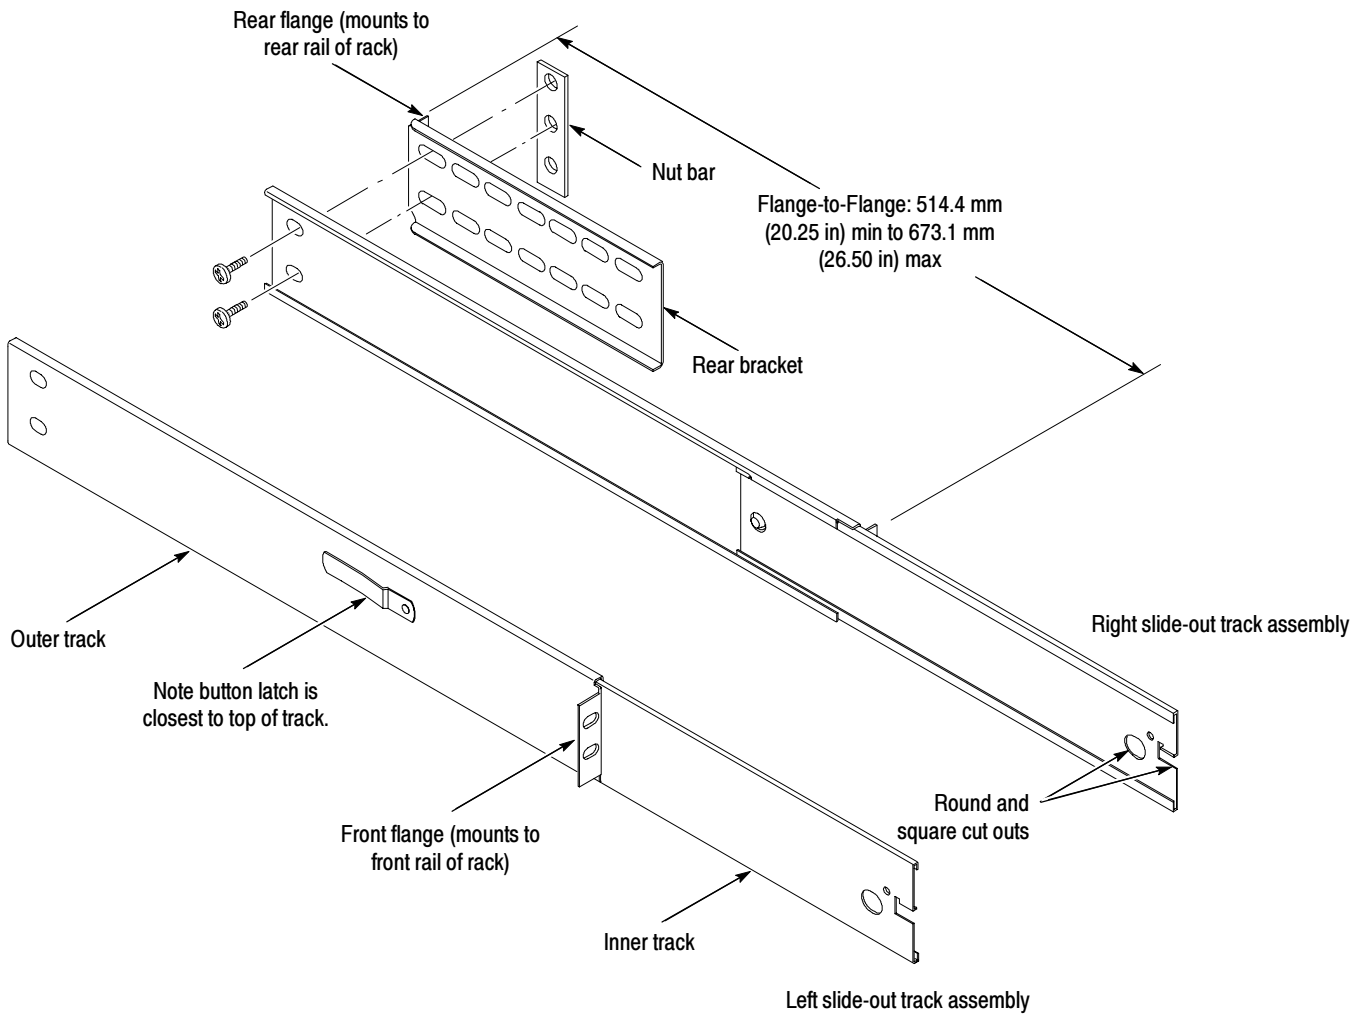

Figure 9: Assembly of slide-out track assemblies
If assemblies are disassembled, use Figure 9, page 19, to match left and right slides. (Note that when the left and right tracks are oriented as shown, the round cutout is below the square cutout at the end of the both inner tracks.)
- c. Align the rear bracket to the right slide-out track as shown in Figure 9. Note the rear bracket has multiple pairs of mount-through holes. When aligning the bracket and track, be sure to select a pair of holes that mount the rear bracket so the flange-to-flange distance (see figure) matches the front rail to rear rail spacing of the rackmount rack just measured.